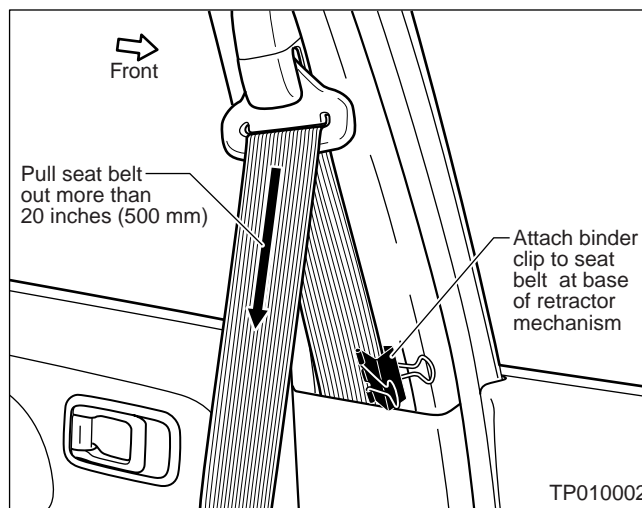

Figure 5
1. Pull the affected seat belt more than 20 inches (500 mm) out of the B pillar seat belt retractor mechanism (see Figure 5).
2. Attach a binder clip (or similar clamping device) to the seat belt at the base of the retractor mechanism to allow for slack in the seat belt (see Figure 5).